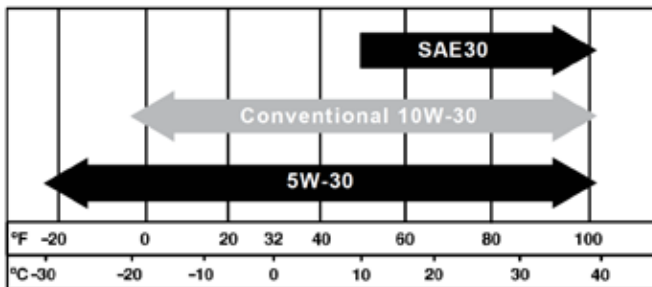

Figure 22 - Recommended Oil
1. Only use the engine oil specified in Figure 22.
6. Select the proper engine oil as specified in Figure 22.